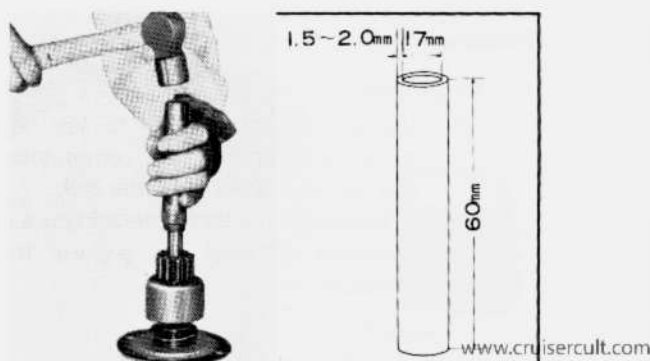

Fig. 7-9 Removing Starter Clutch
- (1) Use the tool as illustrated in Fig. 7-9 to drive out the pinion stop nut towards the clutch, first.
- (2) Remove the snap ring to pull out the clutch together with stop nut.